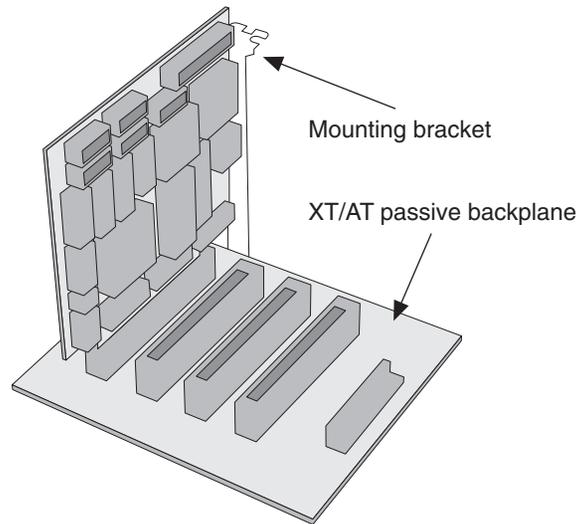

Figure 2-8 – Using a Passive Backplane
3. Place the backplane on a flat surface so that the card is in an upright position. With the top of the card and its components facing left, attach the mounting bracket (optional) onto the edge nearest you. Secure the mounting bracket with the two screws provided in the kit. See Figure 2-8.